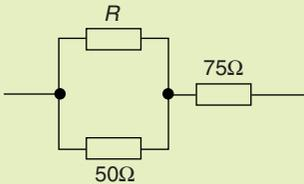

Figure 27
29. The combined resistance of the circuit in Figure 27 is $91.7\ \Omega$. The value of resistor R is